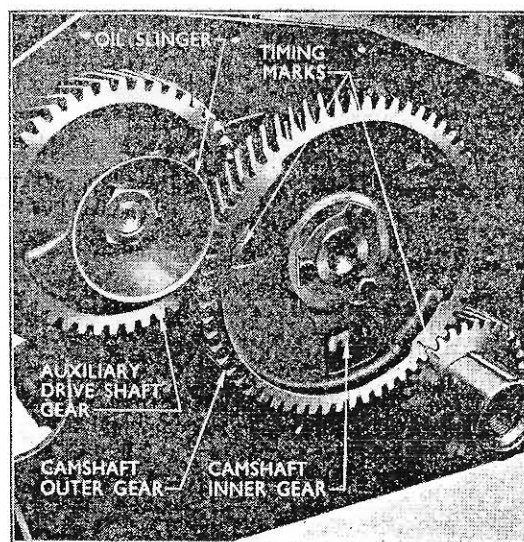

Fig. 26.
34. Replace the camshaft outer gear on the camshaft spigot so that the timing mark on this gear and the crankshaft gear coincide. Secure the camshaft gears in position with three screws and a three holed locking plate, the tabs of which should be bent up against the screw heads after they have been tightened fully. With all the gears in position tighten the auxiliary drive shaft gear retaining nut to a torque of 60 to 70 lbs. ft. (8.292 to 9.674 kg.m.) (see Fig. 26).